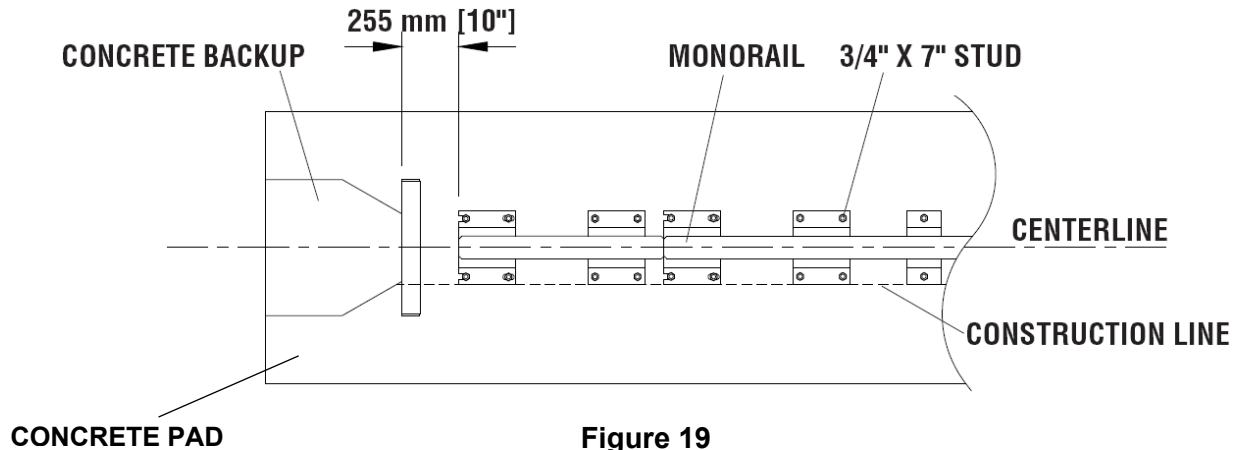

Figure 19
C. For Monorail Deployment (Figures 19 and 20)